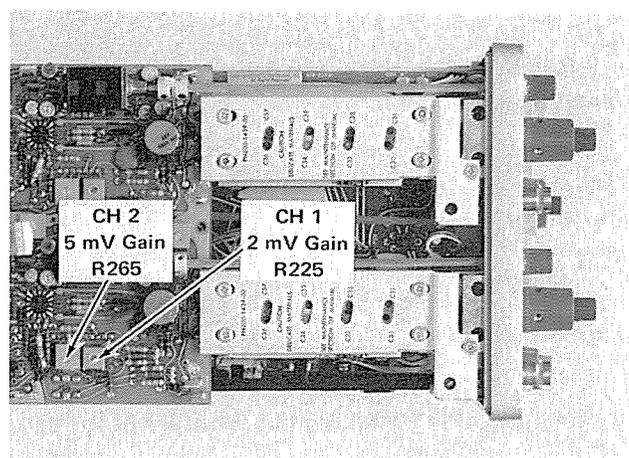

Fig. 5-14. Location of Gain adjustment for Channel 2.
e. ADJUST—CH 2 5 mV Gain adjustment, R265 (see Fig. 5-14), for 4 divisions of deflection.
h. ADJUST—CH 2 2 mV Gain adjustment, R225 (see Fig. 5-14), for 5 divisions of deflection.